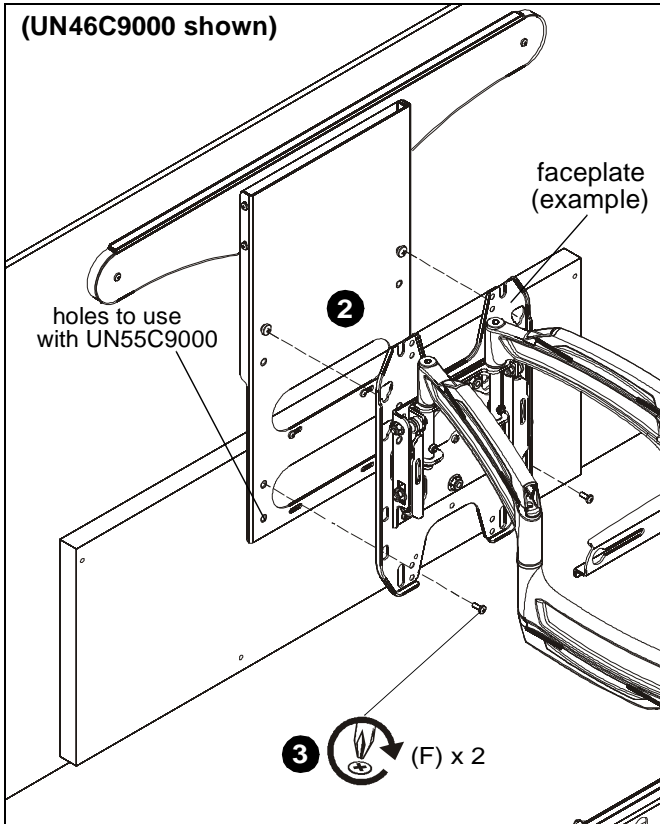

Figure 3
1. Install two M6x20mm Phillips pan machine screws (G) into the upper two holes on lower adapter bracket (B). (See Figure 3)
2. Hang display by two screws onto faceplate through upper teardrop mounting holes. (See Figure 3)
3. Install two M6x10mm Phillips pan machine screws (F) through lower mounting holes and into lower holes on lower adapter bracket (B). (See Figure 3)